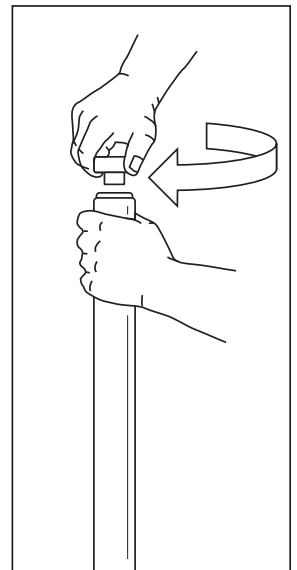

Figure 4
3. Put a thin coat of oil or lubricant over the stem portion of the protector knob. Grab the top portion of the upper handle with one hand and use the thumb and forefinger of the other hand to twist and screw in the stem of the protector knob into the top opening of the handle tube (see figure 4). **IMPORTANT: YOU CANNOT HAMMER THE PROTECTOR KNOB STRAIGHT IN THE HANDLE TUBE.** Secure the protector knob all the way in the handle tube until the knob bottoms out on the top of the handle.